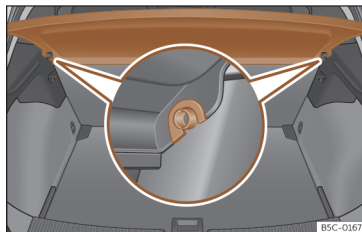

Fig. 180 In the boot: removing and installing the shelf.
- Remove the rear shelf from the side supports >>> **Fig. 180** by pulling it upwards and then take it out.
- Insert the cover horizontally so that the "recess" fits onto the axis of the supports >>> **Fig. 180** and press down until it engages.